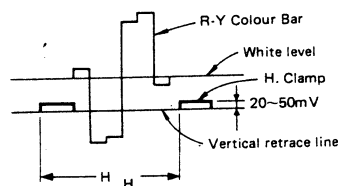

Figure 3.
5. Adjust LM54 so that the white level in picture part reaches to the vertical retrace line. (See figure 3.)
4. Turn the both tabs at the same time keeping the constant angle to superimpose red and blue horizontal lines at the centre of the screen. (See figure 3.)